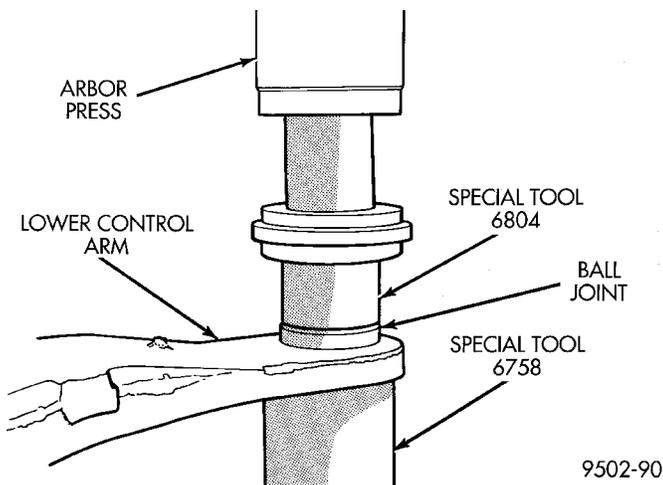

Fig. 68 Removing Ball Joint From Lower Control Arm
(2) Position Receiving Cup, Special Tool 6758 to support lower control arm while receiving ball joint assembly (Fig. 68). Install Remover/Installer, Special Tool 6804 in top of ball joint assembly (Fig. 68).